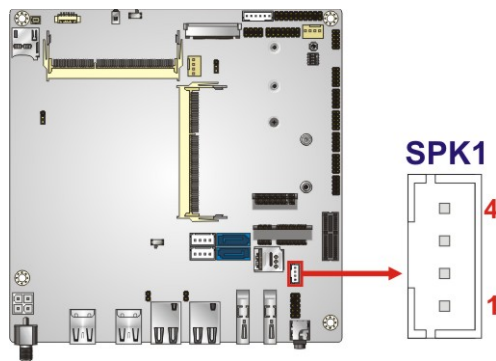

Figure 3-20: Speaker Connector Location
- CN Location:** See **Figure 3-20**